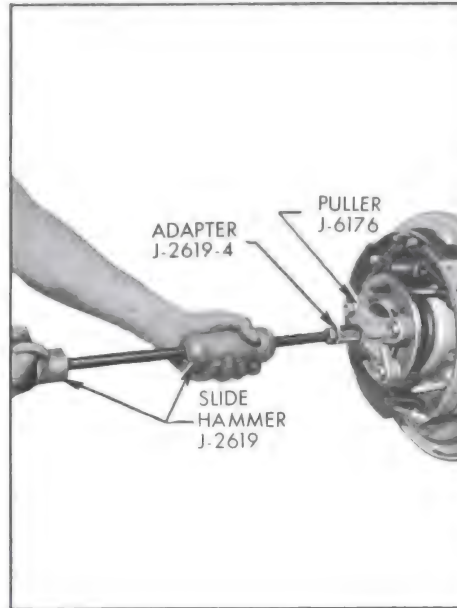

Figure 6-5—Removing Rear Axle Shaft
4. Pull out axle shaft assembly using Puller J-6176 with a slide hammer. See Figure 6-5. **CAUTION:** While pulling axle shaft out through seal, support shaft carefully in center of seal to avoid cutting seal lip.